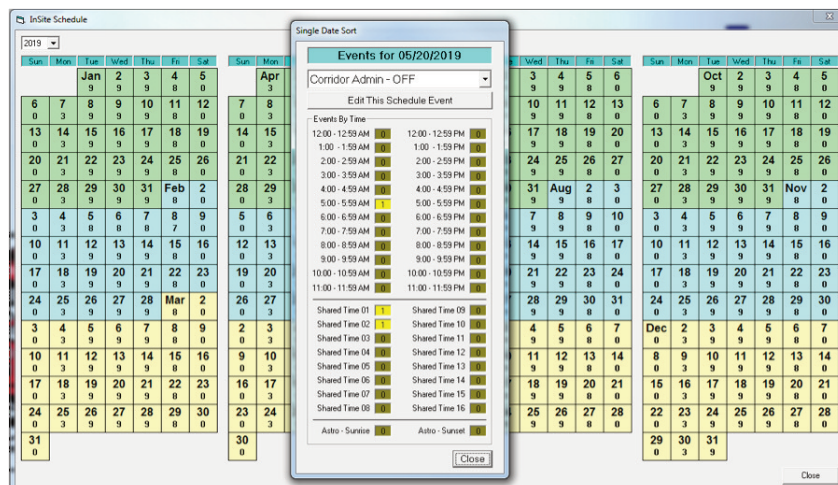

Figure 2.22 Full Year Calendar
3. From the calendar as shown in figure 2.22, select the date desired to view. This will open the events overview for the date. Note: The total number of events associated to the date will be displayed for each calendar day.